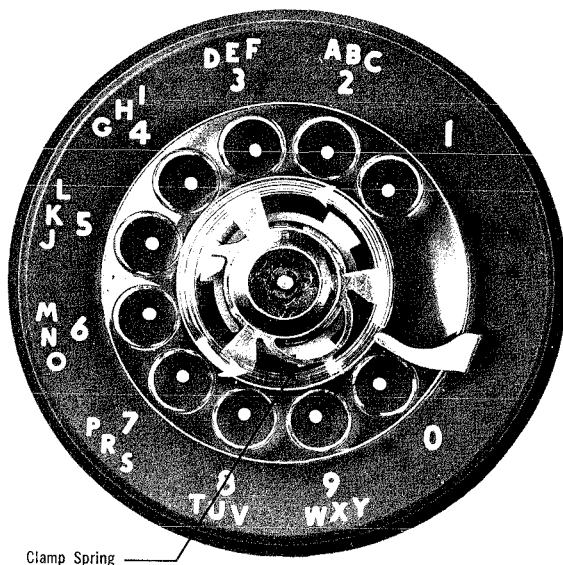

Fig. 5 — Replacing Fingerwheel
- (1) Rotate fingerwheel as far as possible in a clockwise direction.
- (2) Insert KS-16750, List 2 dial tool into the small hole located in the edge of the serrated section of the fingerwheel and push down to disengage the fingerwheel clamp spring.
- (3) When clamp spring releases, remove fingerwheel and dial will return to normal.
4.02 To replace fingerwheel (see Fig. 5):